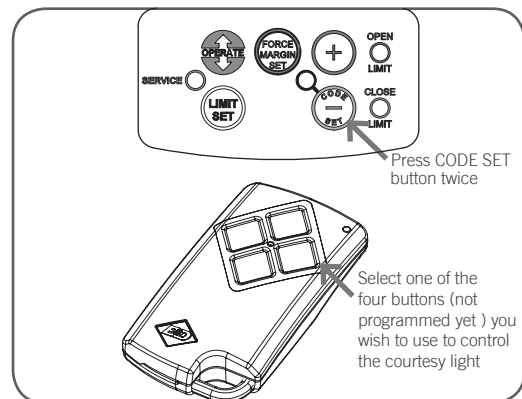

Fig.14
- Press the CODE SET button twice - The CODE SET LED and courtesy light will both illuminate (**Fig. 14**).